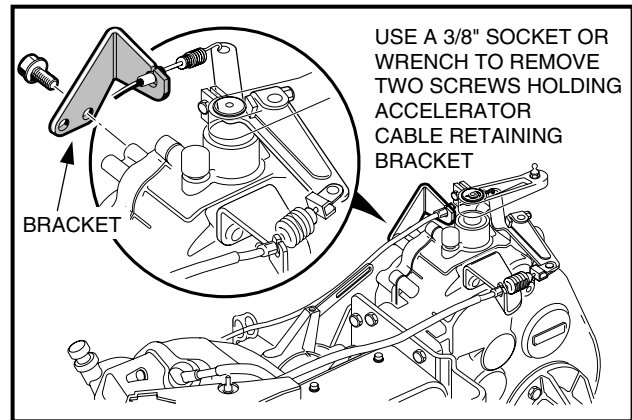

FIGURE 10-34
18. Use a 3/8" socket to remove the screws securing the accelerator cable bracket to the transaxle (**Figure 10-34**).